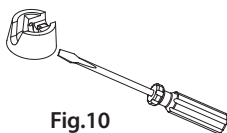

Fig. 10
2. You will need a screwdriver to remove the green cover from your Heineken keg (Fig. 10).